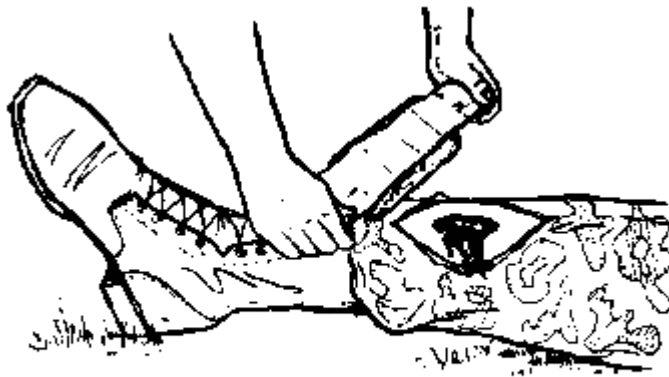
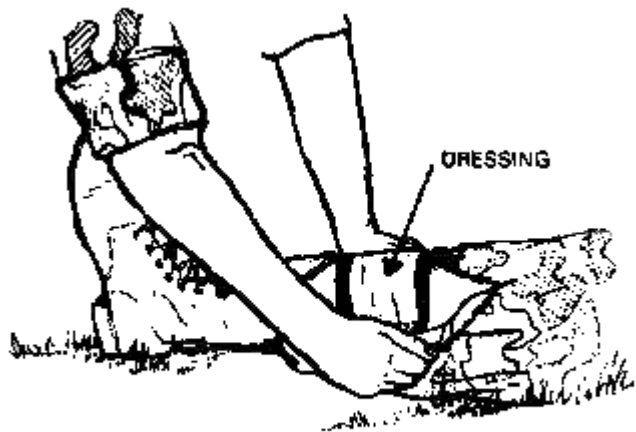

Figure 2-29. Pulling dressing open.
Figure 2-30. Placing dressing directly on wound.
b. Hold the dressing directly over the wound with the white side down. Pull the dressing open (Figure 2-29) and place it directly over the wound (Figure 2-30).